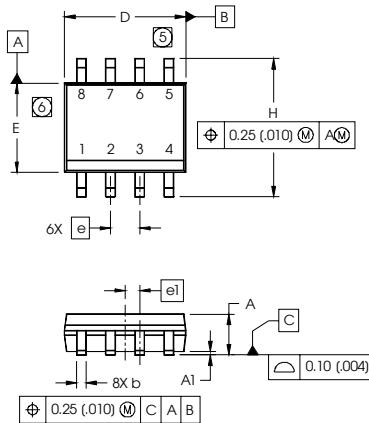

**Fig 23.** Maximum Effective Transient Thermal Impedance, Junction-to-Ambient
① Repetitive rating; pulse width limited by max. junction temperature. ( See fig. 23 )